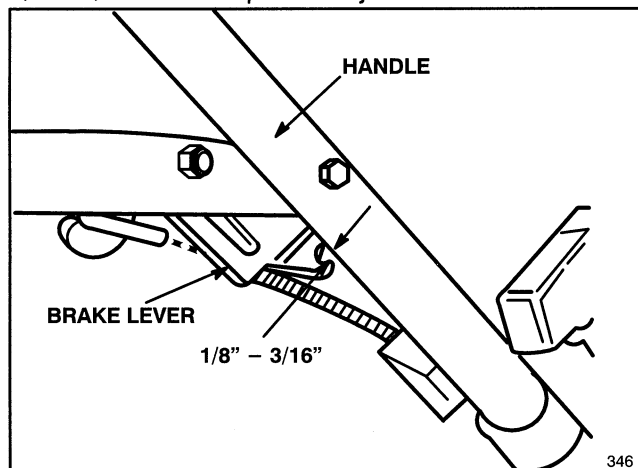

Figure 21
2. **CHECK ADJUSTMENT** (Fig. 21)—Move control bar toward handle until slack in wire is removed. Gap between brake lever and handle must be $1/8'' - 3/16''$. See step 3 for adjustment.